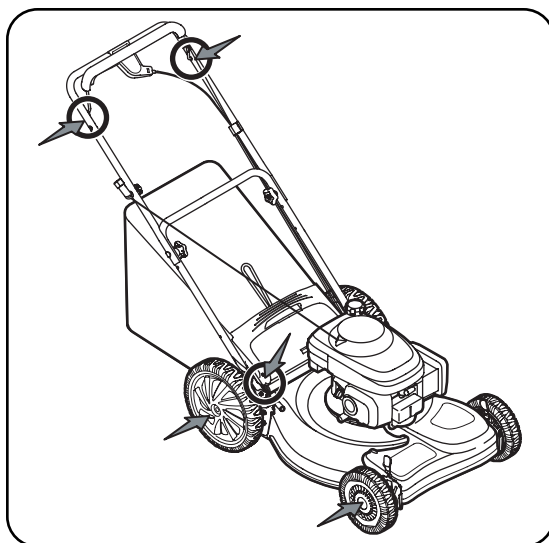

Figure 5-1
1. Lubricate pivot points on the blade control at least once a season with light oil. The blade control must operate freely in both directions. See Figure 5-1.
2. Lubricate the wheels at least once a season with light oil (or motor oil). If wheels are removed for any reason, lubricate surface of the pivot arm and inner surface of the wheel with light oil. See Figure 5-1.
3. Lubricate the torsion spring and pivot point on the rear discharge door periodically with light oil to prevent rust. See Figure 5-1.